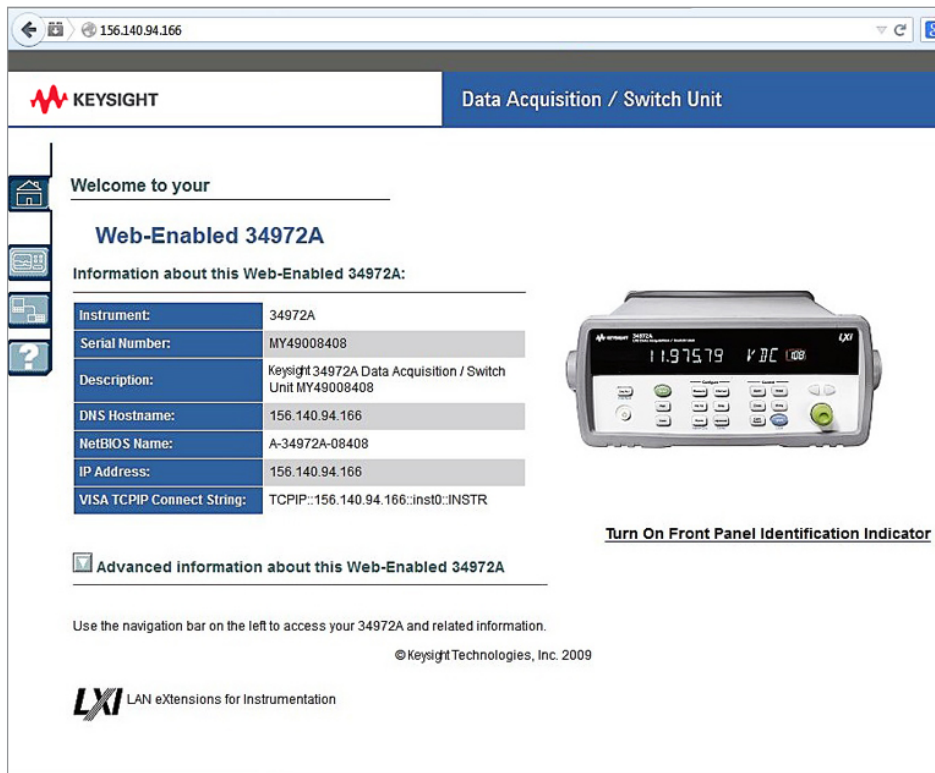

Figure 5. Confirm the wireless connection by opening a browser and entering the 34972A's IP address in the URL field.
- You should now be able to access the 34972A wirelessly by using its IP address. You can obtain the IP address from the front panel as described in step 3. You can confirm the wireless connection by opening a browser and entering the 34972A's IP address in the URL field to access the 34972A's built-in Web server (Figure 5).